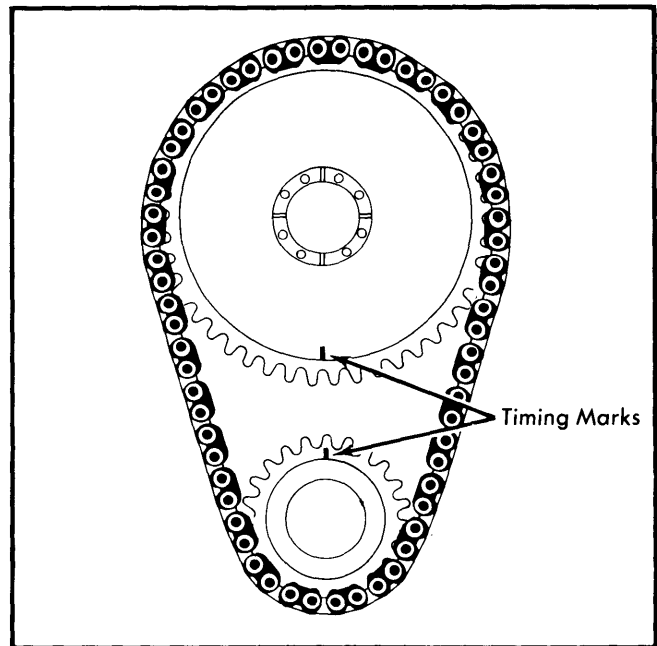

Fig. 13 Timing Chain Sprocket Alignment
**Removal** — 1) With front cover removed, temporarily install harmonic balancer washer and bolt. Rotate engine until timing marks on sprockets are aligned. See Fig. 13. Remove harmonic balancer bolt without disturbing position of sprockets. Remove front oil slinger. Remove oil pan on V6 engines.